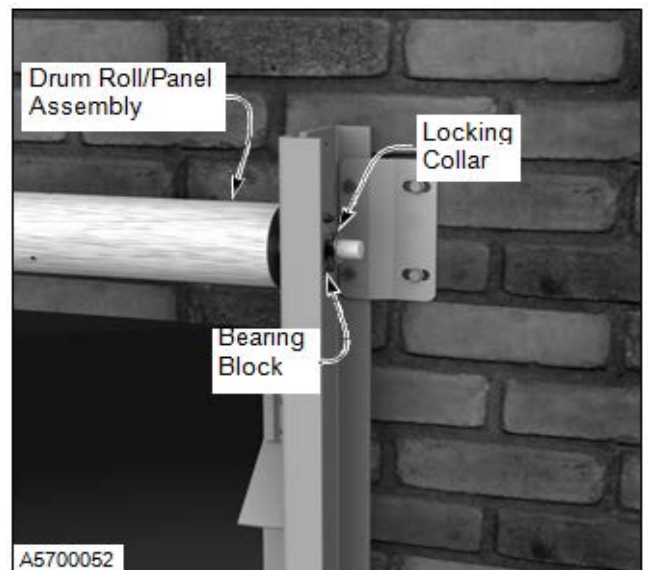

Figure 13
8. Slide locking collar onto the shaft end. Tighten the collar to prevent the drum roll from falling out of the bearing. (See Figure 13)